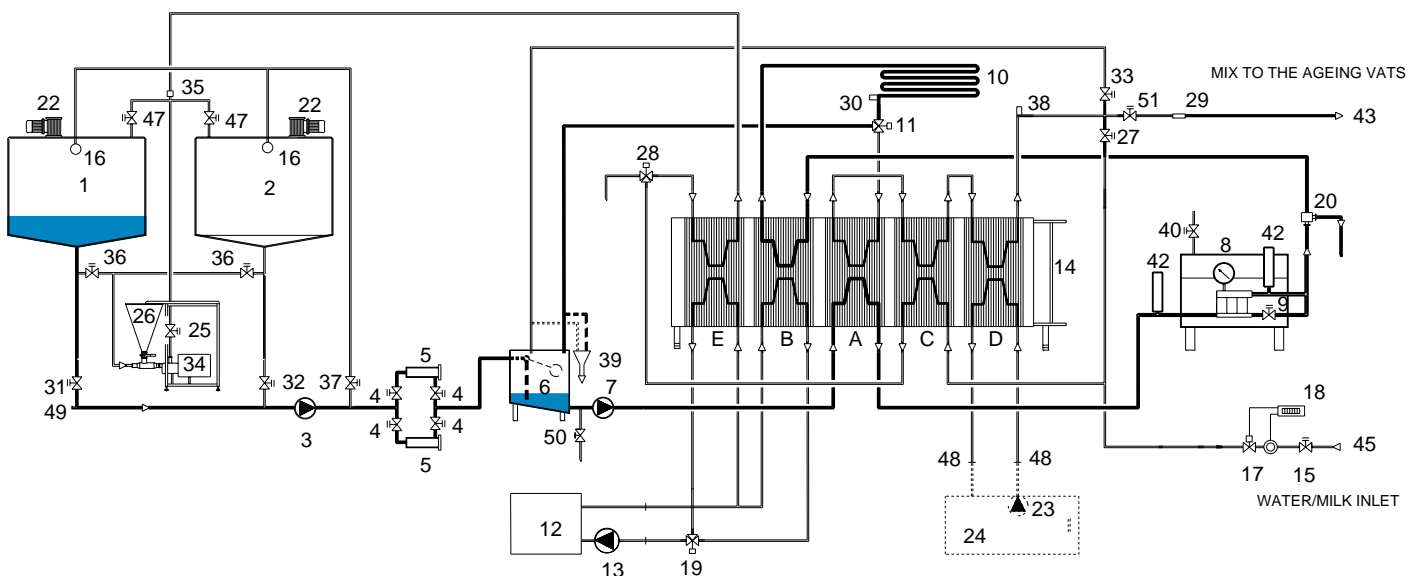

Fig. 7.1
The plant is equipped with a semi-automatic washing program for cleaning the heating, pasteurizing and cooling units and all pipes as far as those connecting the plant to the ageing vats. The washing operations are carried out as follows (see Fig. 7.1 - 7.5):
4. Close valves (27) and (51) and open valve (33) so that the solution can be sent through the bypass pipe and not to the ageing vats.
6. Open valve (47) of tank (1) and start the litre counter. The water will run into tank (1). Shut-off the water when the level in the tank has reach $\frac{1}{4}$ of the total capacity. Prepare the washing solution in tank (1), then open the appropriate valve (31) to circulate the water in the plant.
7. Ensure that there is no cold water circulating in the pre-cooling and cooling sections of the heat exchanger. Start pumps (3) and (7), and start the homogenizer without pressure and with bypass valve (9) open. When transferring the washing solution from the ageing vat to the balance tank, open valves (4) to wash the mix filters.
8. The solution is recirculated between balance tank (6), the preheating and pasteurizing sections (A and B) of the PHE, the homogenizer (8) and the holding pipe (10) until the diversion temperature of valve (11) is reached (see circuit in bold of Fig. 7.1). For the first few seconds, rotate the bypass pipe onto the funnel (39), in order to drain the last of